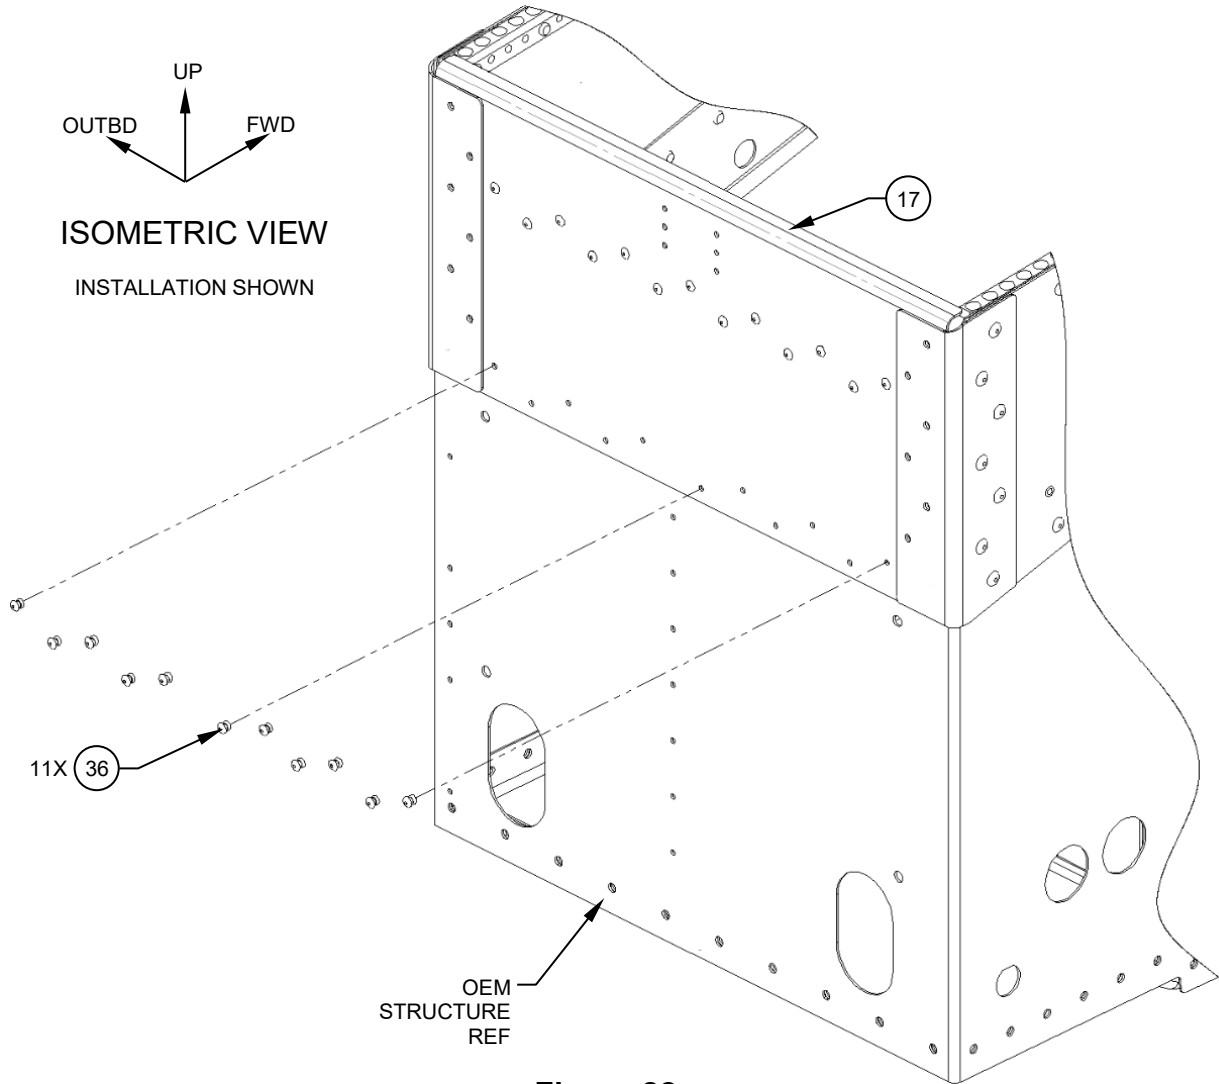

Figure 22
4.12. Back drill for 11x Rivet, Solid, Universal Head, (Item 36), from 1x AFT Angle, Assy, (Item 17) thru the OEM structure. See Figure 22.